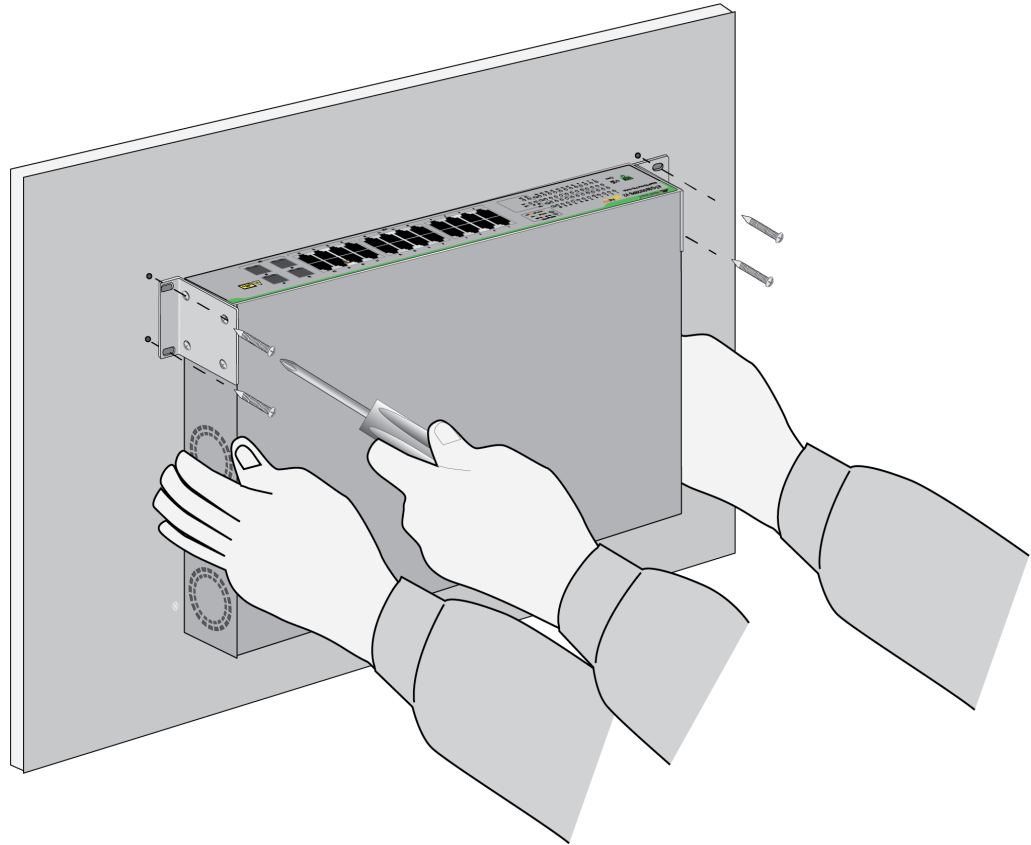

Figure 33. Installing the Switch on a Concrete Wall
7. Have another person hold the switch at the selected wall location while you secure it to the wall with the four provided screws. Refer to Figure 33 on page 70.